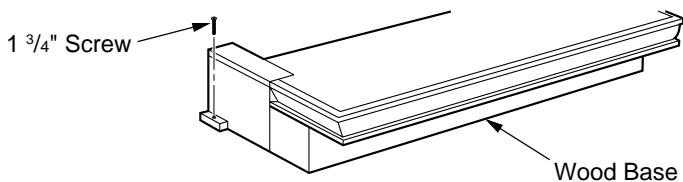

Figure 13 - Attaching Wood Base to Floor
10. Attach wood base to floor with two 1 3/4" black screws provided (see Figure 13). If the floor is concrete use anchor method (see *Attaching Wood Base to Solid Floor*; page 17).